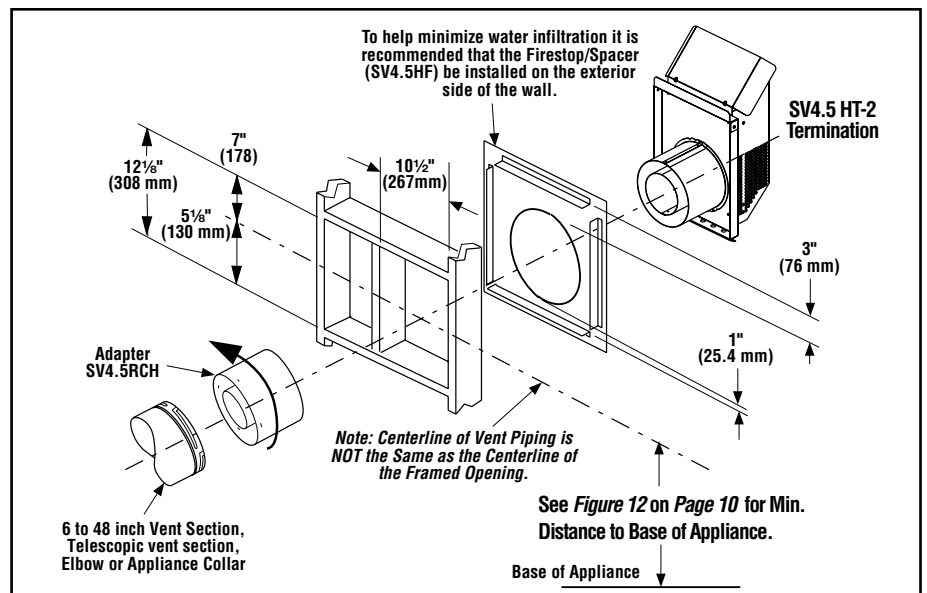

Figure 28 - INSTALLING SQUARE HORIZONTAL TERMINATION (SV4.5HT-2)
K. Attach termination adaptor - Attach the adaptor (SV4.5RCH - provided with the termination) to the vent section or telescoping vent section), elbow or appliance collar as shown in **Figure 28** in the same manner as any SV4.5 vent component (refer to **Step E**).
L. Install Firestop/Spacer at exterior wall - When using the **square** termination, install SV4.5HF (**Secure Vent™**), SF4.5HF (**Secure Flex™**) Firestop/Spacer over the opening at the exterior side of the framing, long side up, with the 3 inch spacer clearance at the top as shown in **Figure 28**, and nail into place.